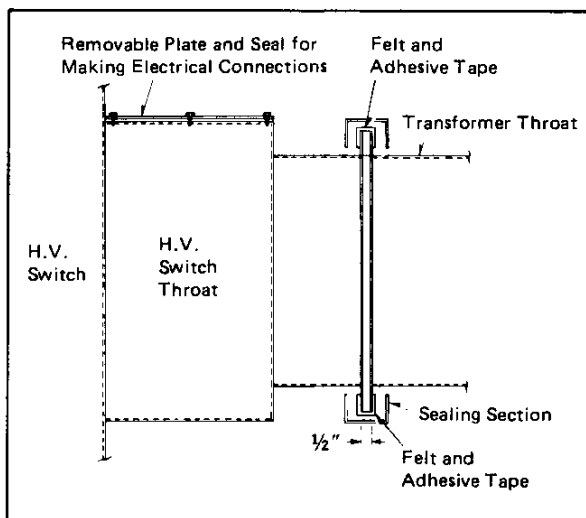

Fig. 4 Transformer Connection to WLI Switch
3.2.1.2 Outdoor Throat Connection (See Fig. 4)